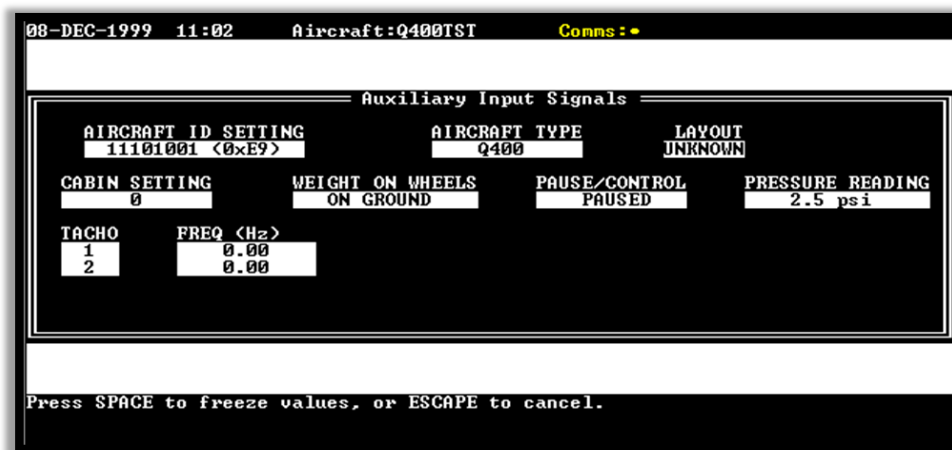

Figure 3.27 - Auxiliary Input Signals Screen
- (2) Display Auxiliary Input Signals Screen
- (a) Select 'Display Auxiliary Input Signals' from the 'System Information Menu' and press <ENTER>. The 'Auxiliary Input Signals' screen will be shown on the MT display (Ref. Figure 3.27).